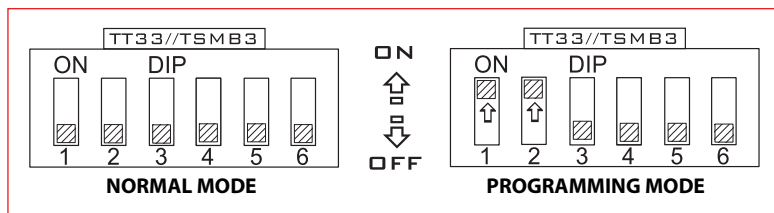

Fig. 9. Switch the door station to parallel programming mode
- > Switch the door station to programming mode by setting DIP switches **1 and 2** (Fig. 9) to ON.
- > Switch the door station to normal mode by setting both DIP switches (Fig. 9) to OFF.